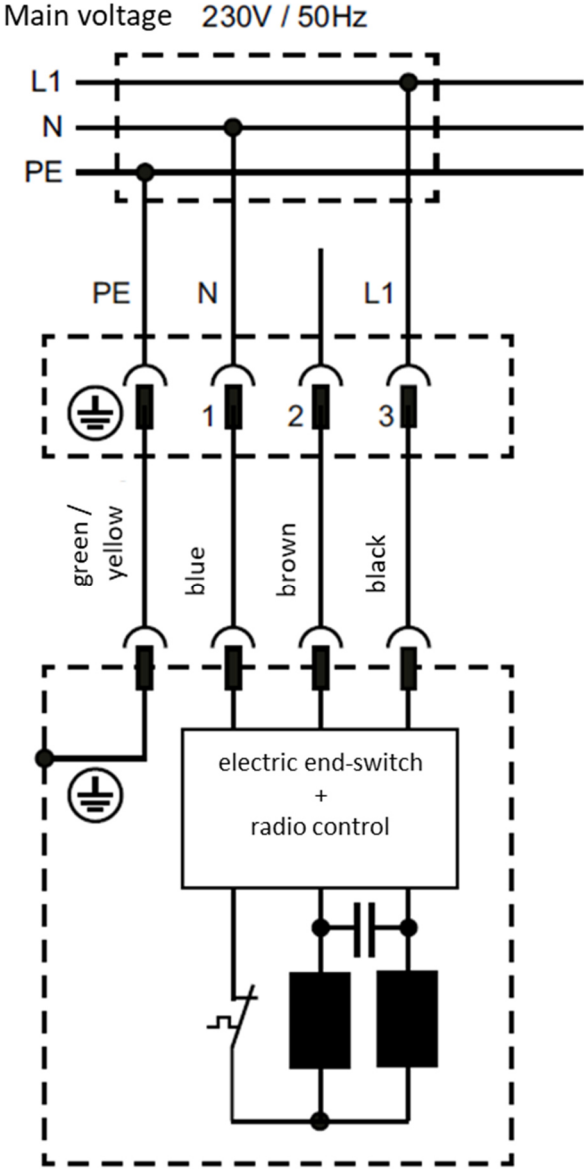

Figure 5-4: Circuit diagram
- Connect the motor to the power supply according to the circuit diagram in Figure 5-4. Make sure that connection cable 2 (brown) is not connected.